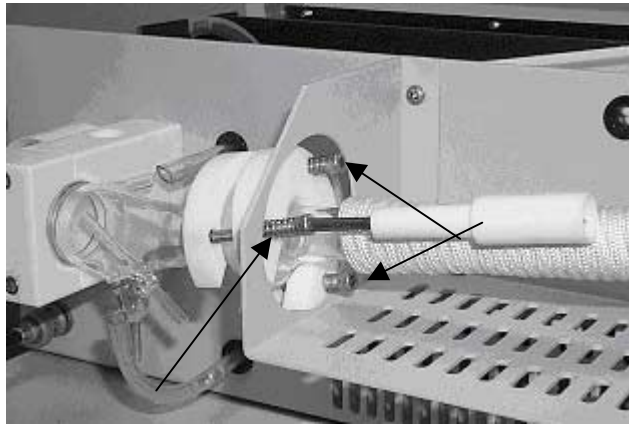

Figure 3
3. Using the tool provided with the unit, remove the three screws holding the two piece clamp. Be careful not to lose the springs. See Fig. 3